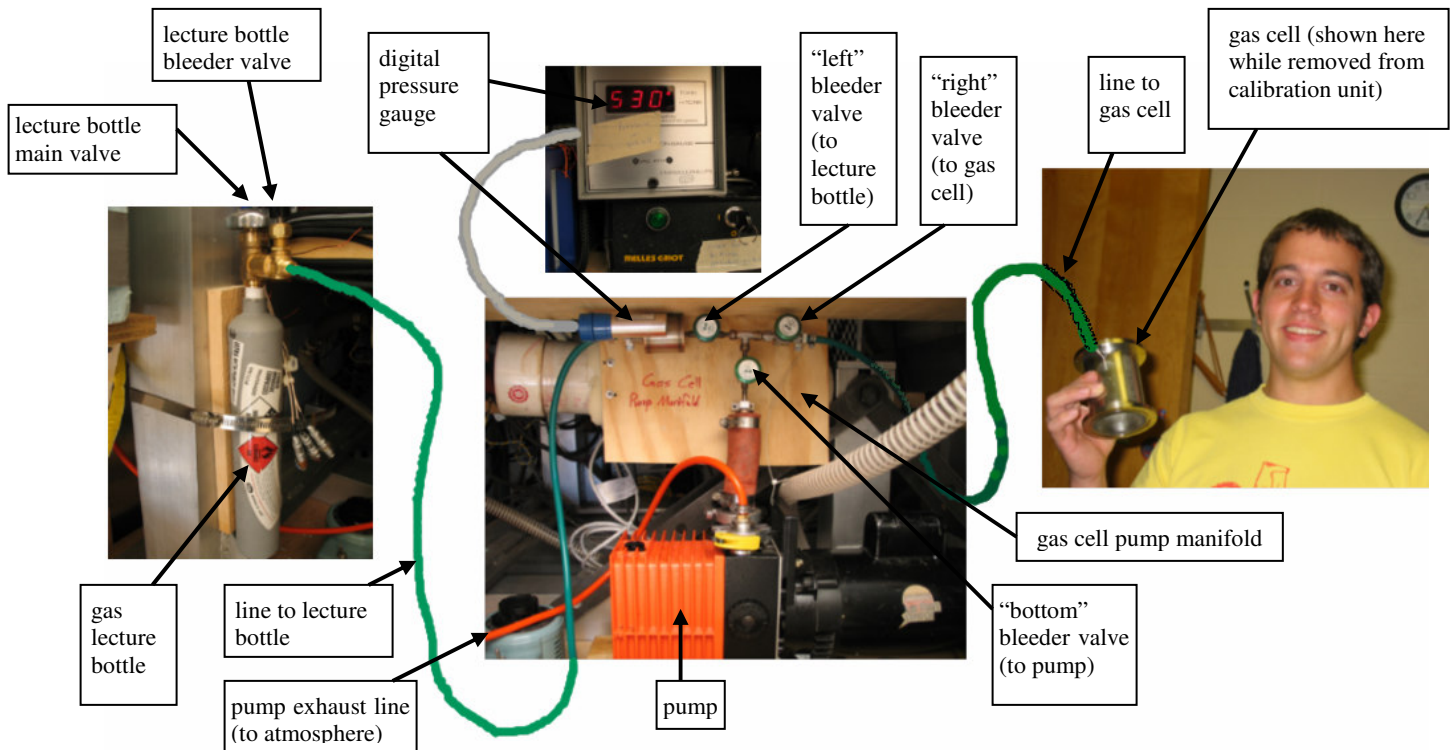

Figure 19: Gas cell manifold setup
- To fill the gas cell with a gas of choice, first make sure that all three green-colored “bleeder” valves on the gas cell pump manifold (40) (located in the enclosure under SPIFI on the battery box side) are open.
- Close the main valve on the gas lecture bottle (42) (as it should already be). See Figure 19 above.
- Turn on the orange pump (41) under SPIFI by plugging it in. (If the pump is very cold then you may need to physically disconnect the pump from the gas cell manifold and let it pump on the atmosphere until the oil heats up). The pump should be able to pump-down the manifold, gas cell, and all the connecting lines to about 1-2 Torr if you let it run for several minutes.